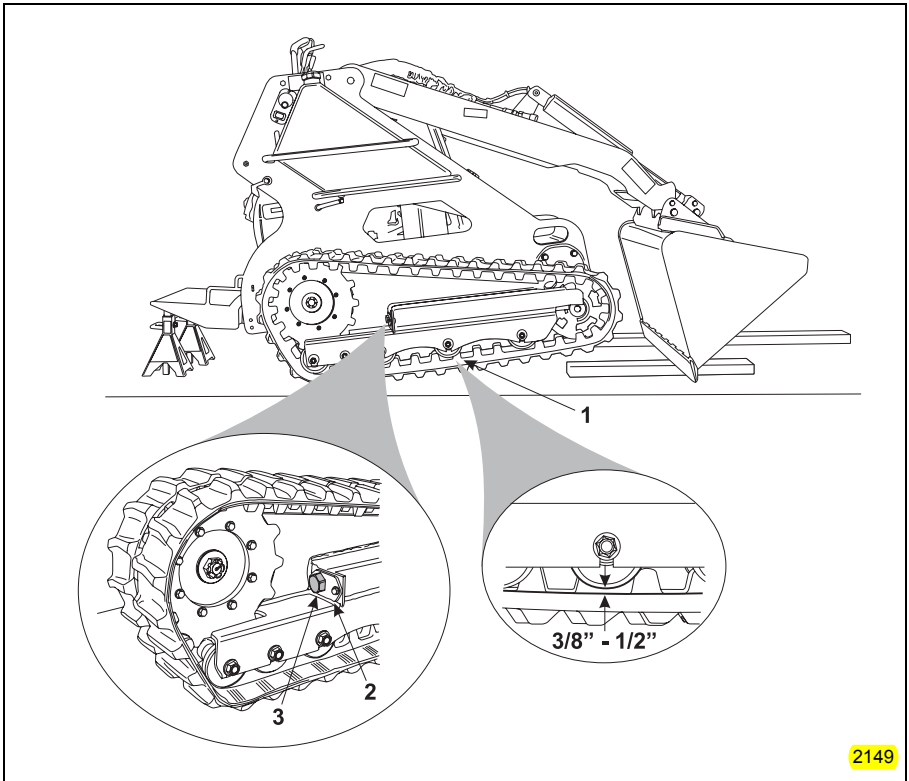

Figure 4-14 Track Tension Adjustment
- e. If an adjustment is needed, fully remove the adjustment nut keeper (Item 2, Figure 4-14) and rotate the adjustment nut (Item 3, Figure 4-14) until the proper track deflection measurement is achieved. Reinstall and secure the adjustment nut keeper (Item 2, Figure 4-14). **NOTE:** It may be necessary to rotate the adjustment nut slightly to align the adjustment nut keeper bolt.